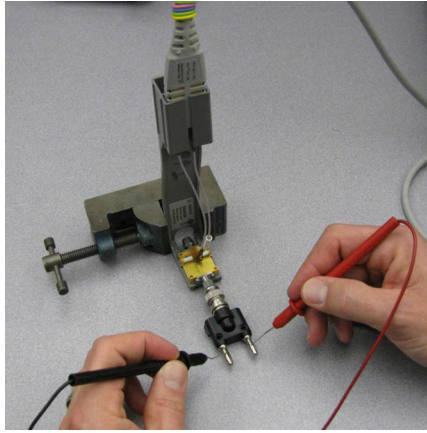

Figure 108 Measuring the Differential Input Resistance of Solder-In Probe Head
Figure 108 shows the correct setup for measuring the differential input resistance for the solder-in probe head.
- 1 Connect the BNC to SMA adapter and BNC to Banana Plug adapters as shown in **Figure 108** on page 150.
- 4 Connect the ZIF or solder-in probe head to the probe amp and insert it into the PV fixture as shown **Figure 108**.
- 6 As shown in **Figure 108**, measure the DC input resistance between the banana plugs. Since one tip wire is connected to the signal line and the other tip is connected to the PV fixture ground, this is a measurement of the differential input resistance. It should be $100\text{ k}\Omega \pm 2\%$ (98 to $102\text{ k}\Omega$).